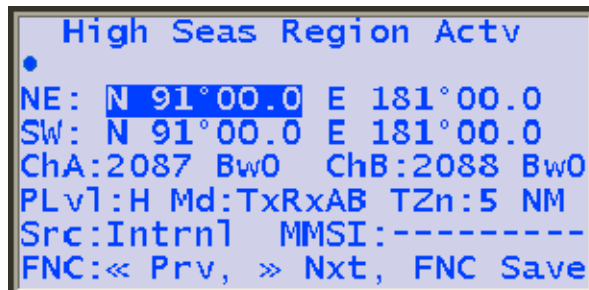

Figure 2-9. Channel Management Settings Screen
- (1) Press the FNC key.
- (2) Press the NAV key. The AIS Main System Menu screen will appear.
- (3) Using the down Arrow key, select Edit Chan Mgmt Settings, and press the ENT key. The Channel Management Table Entry screen will appear. (Refer to Figure 2-9.)
- (4) Use the up and down arrow keys and the left and right arrow keys to highlight an entry point, and press the ENT key.
- (5) Enter the data, press the ENT key, and move to the next data entry point.
- (6) After all of the data is entered for that region, press the FNC key twice and then press the ENT key to save the data.
- (7) Press the ESC key to return to the AIS Main System Menu screen.